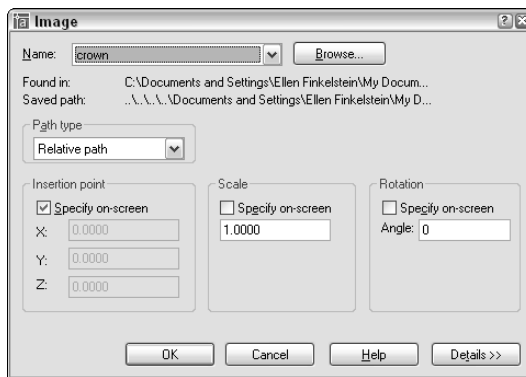

Figure 27-5: The Image dialog box.
Locate the image you want to insert and choose Open. The Image dialog box (shown in Figure 27-5) opens; this dialog box lets you specify how to insert the image. You can specify the insertion point, scale, and rotation in the dialog box or on-screen. This dialog box is very similar to the Insert dialog box that you use when inserting drawings and blocks.
- ♦ **Attach** inserts an image, opening the Image dialog box (refer to Figure 27-5).